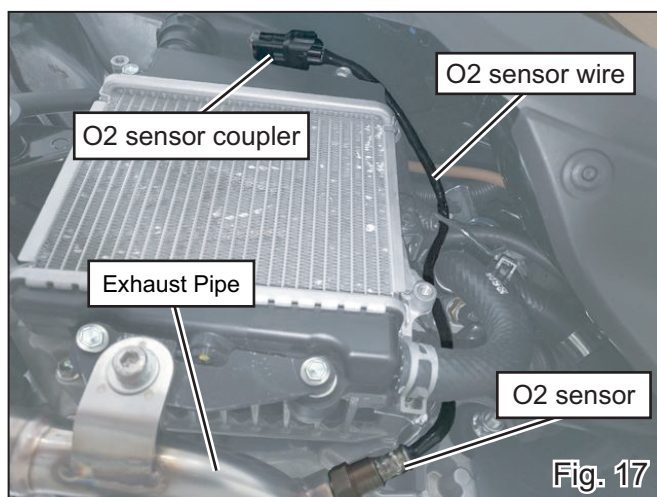

Fig. 17
- 14) Locate O2 sensor wire as shown in Fig. 17, hook the wire at original position and reconnect coupler on vehicle.